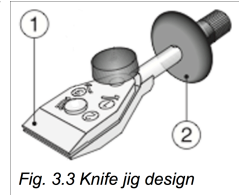

Fig. 3.3 Knife jig design
Apart from the adjustable clamp ('1' in Fig. 3.3) for holding knives of any thickness, the jigs comprise an adjustable stop (2) by which the distance from the knife edge to the universal support can be adjusted to the desired length. Thus we have the following parameters for adjusting the grinding angle: